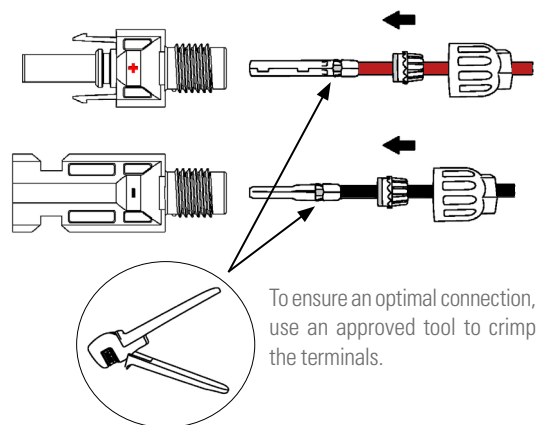

Fig. 19. Crimping the cable.
- d. Insert the DC cable through the DC connector nut on the metal terminal and press the terminal with professional crimping pliers (pull the cable to check if the terminal is well connected to the cable), as shown in Fig. 19: